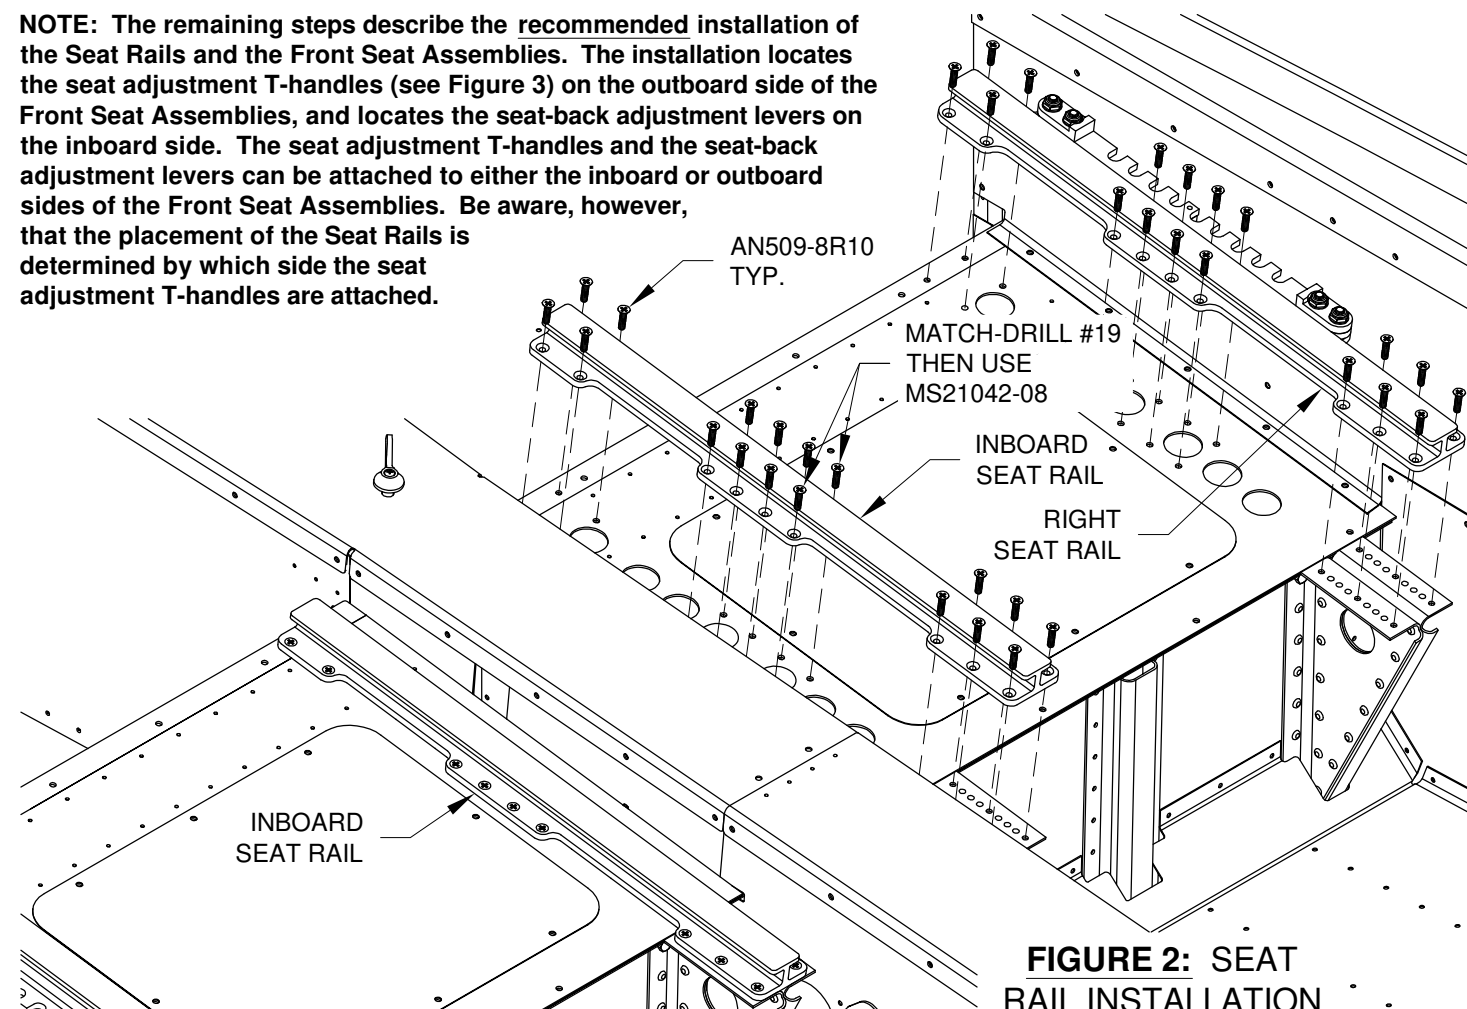

FIGURE 2: SEAT RAIL INSTALLATION
Step 2: Match-Drill #19 the F-01057-L & F-1 Mid Seat Rail Supports from the two indicated holes in the F-01067A-1 Seat Floors. See Figure 2. Clean out any drill chips/shavings.
Step 3: Install the Seat Rails using the hardware called-out in Figure 2.